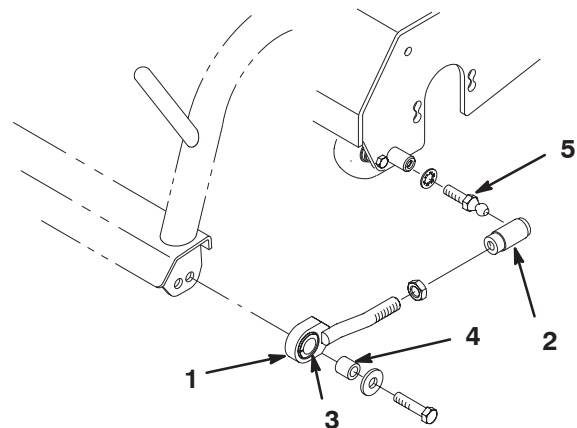

Figure 5
- B. Assemble a jam nut and ball joint receiver onto each pull link assembly as shown in Figures 5 and 6.
- C. Mount a pull link assembly to each end of the carrier frame with a spacer, washer, and screw (Fig. 5 and 6). Make sure that the nylon bushing is in the pull link.
- D. Install a ball stud and lock washer to each end of the spiker (Fig. 5 and 6).
- F. Slide the sleeve back on each ball joint receiver and hook them onto the ball studs (Fig. 5 and 6).